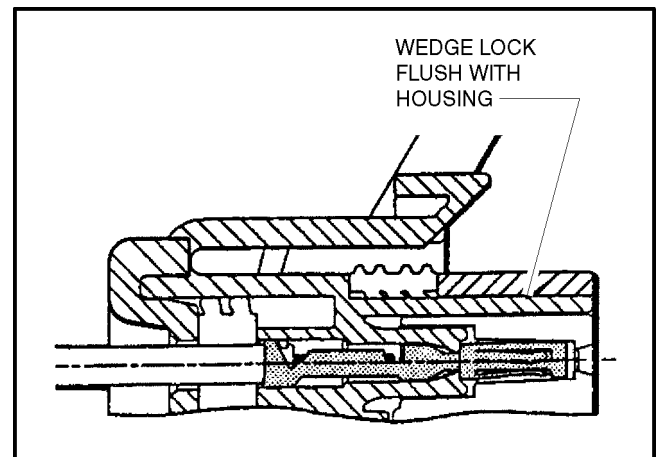

Figure 7-15. Connector Assembly Figure 4
4. Slide the wedge lock into the housing until it is flush with the housing (See Figure 7-15.).